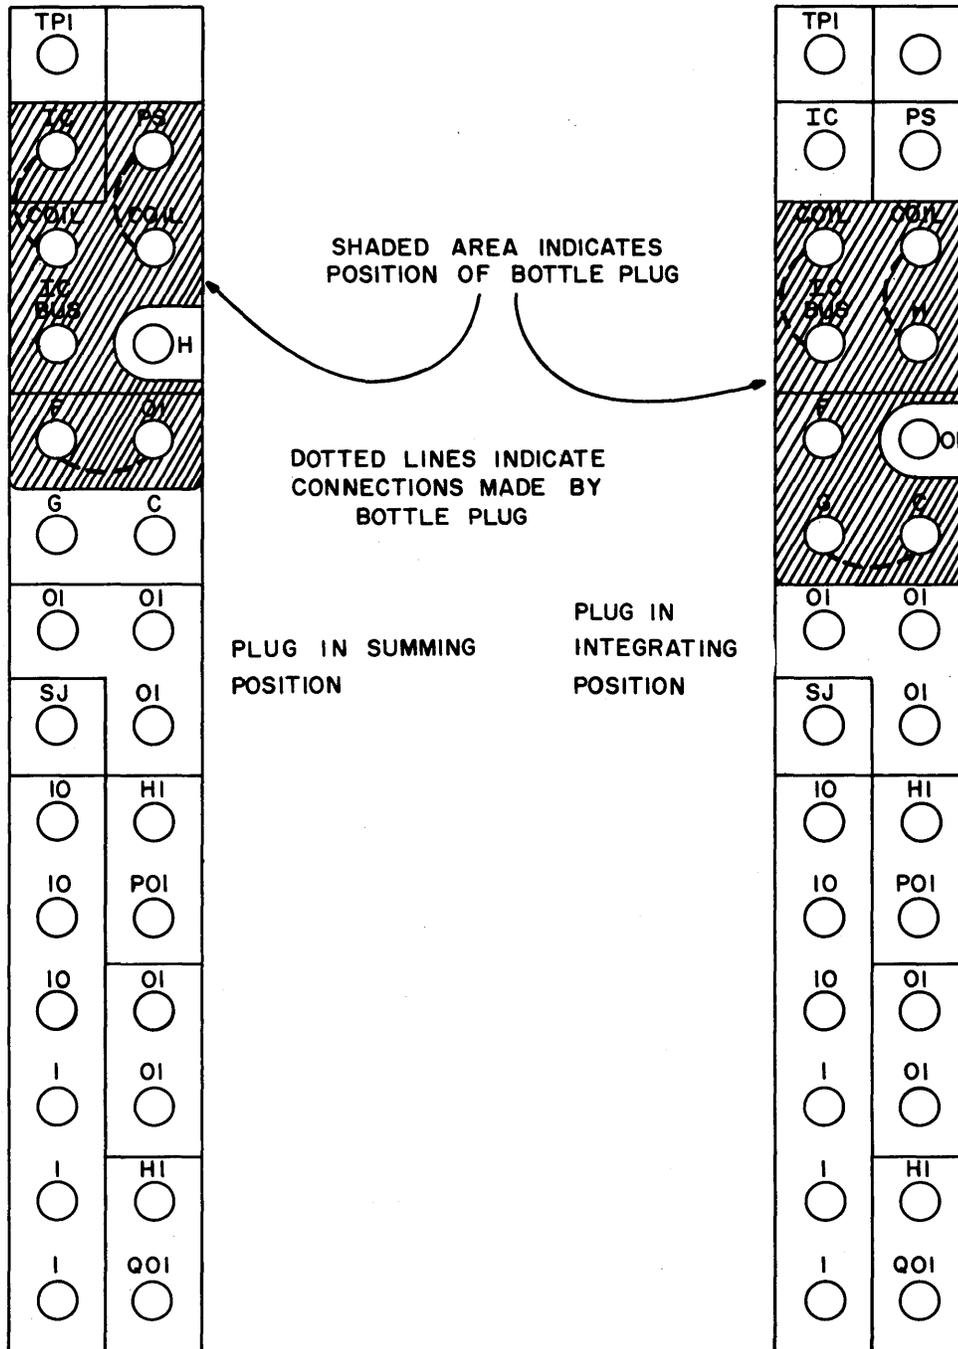

Figure 9. Combination Amplifier Patching.
a. Control Functions. All the operating controls for the computer are located on the slanting control panel on the console (see fig. 9). The functions of the controls are described in the order in which they appear on the console from left to right. A detailed circuit description of each unit will be found in paragraph 15.
(1) *Combination Amplifier.* Figure 9 shows the combination amplifier section of the patch panel; the shaded area indicates the position of the six-prong bottle plug. The diagram on the left shows the bottle plug position and connections made in order to use the combination amplifier as a summer. On the right, patching for integrators is shown. The two vertical jumpers at the top of the plug connect the coils of the IC and Pot Set-